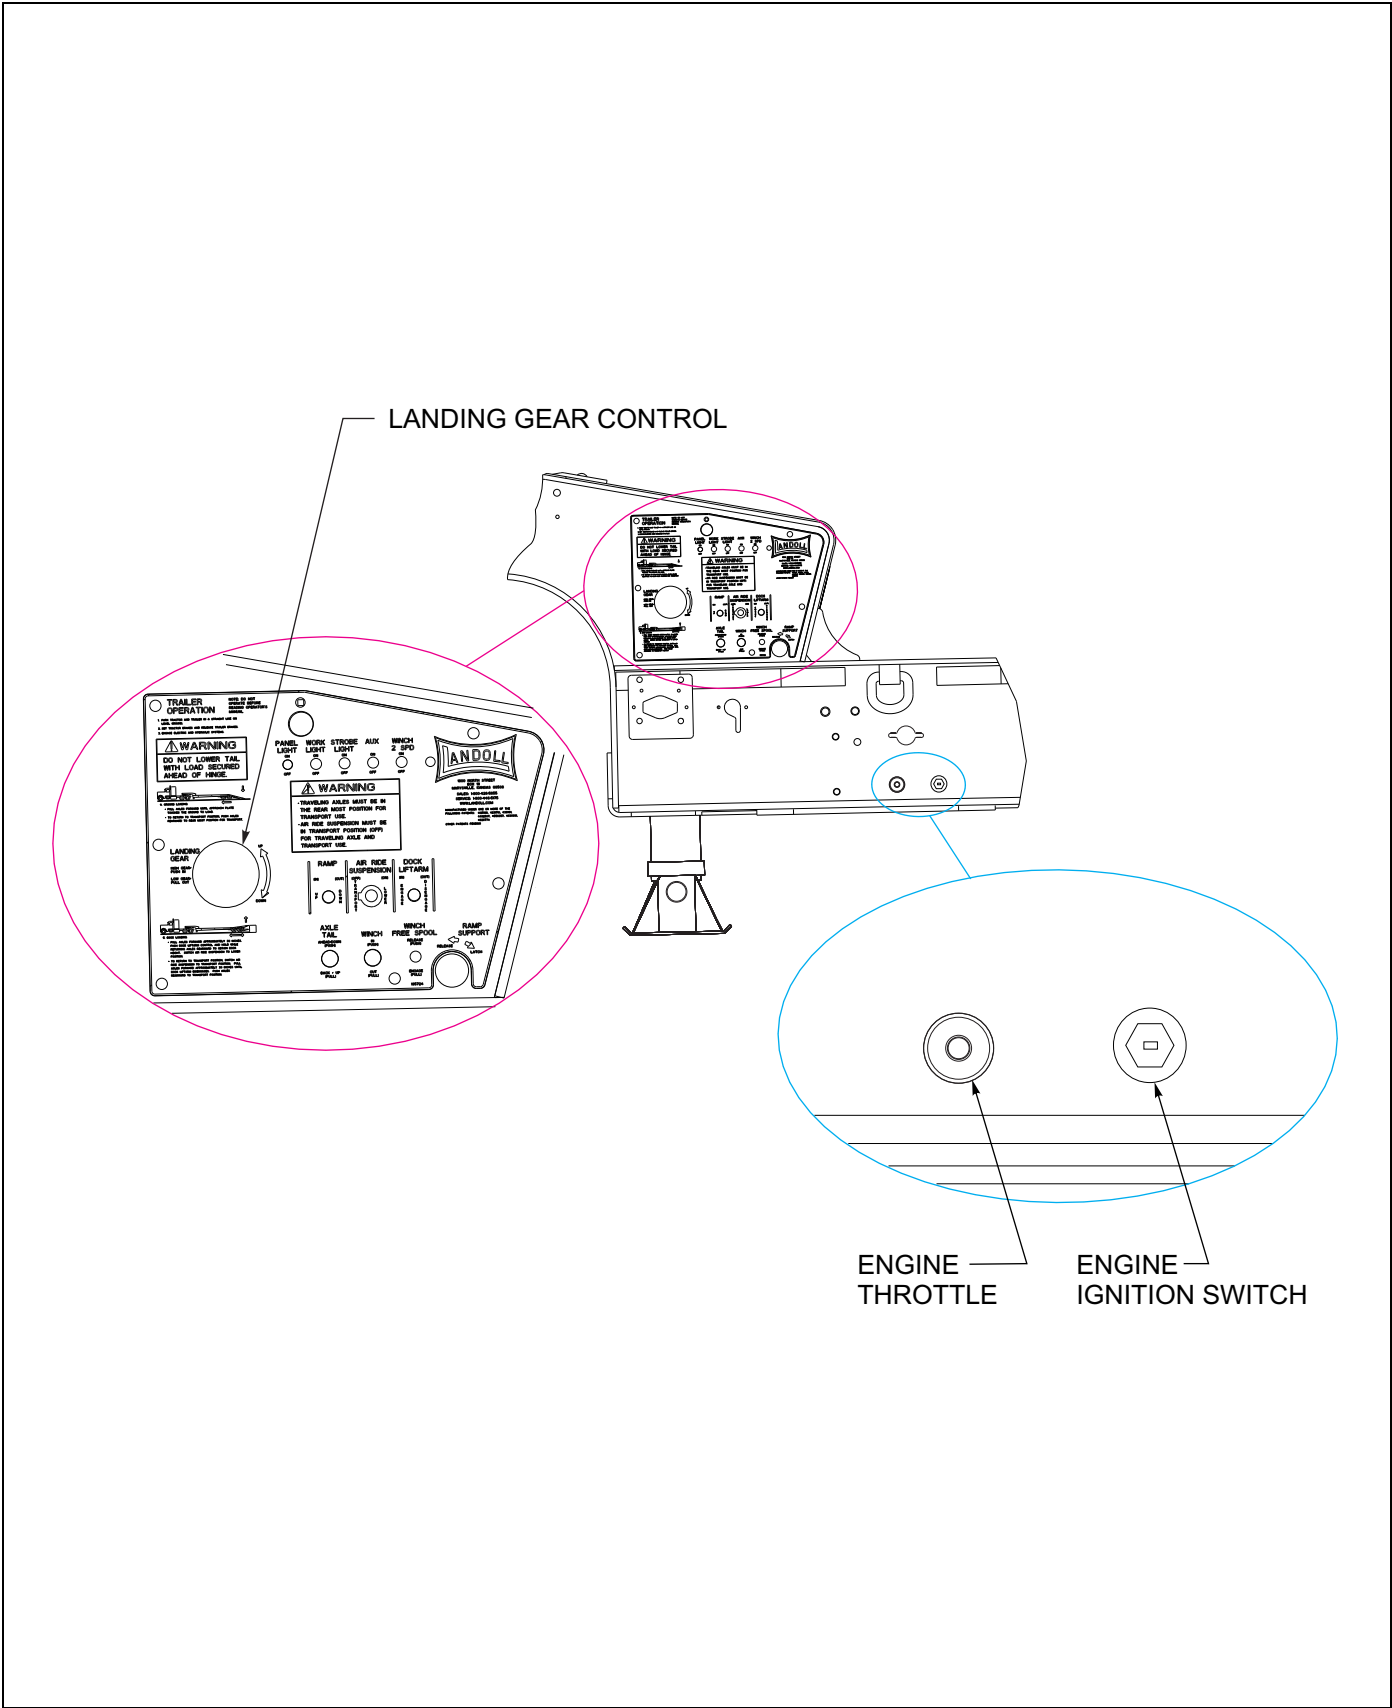

Figure 3-11: Hydraulic Engine Package Control Panel (Option)
2. The Engine Ignition Switch is located below the hydraulic controls, and behind them on the driver's side of the semitrailer (See Figure 3-11.) Use the key to start and stop the Hydraulic Power Supply Engine. This switch has three positions: (See Table 3-7.)
3. The Hydraulic Power Supply Engine Throttle is located to the right on the driver's side of the semitrailer (See Figure 3-11.) The Engine Throttle controls the speed at which the engine operates. It is a variable position control (See Figure 3-8.)